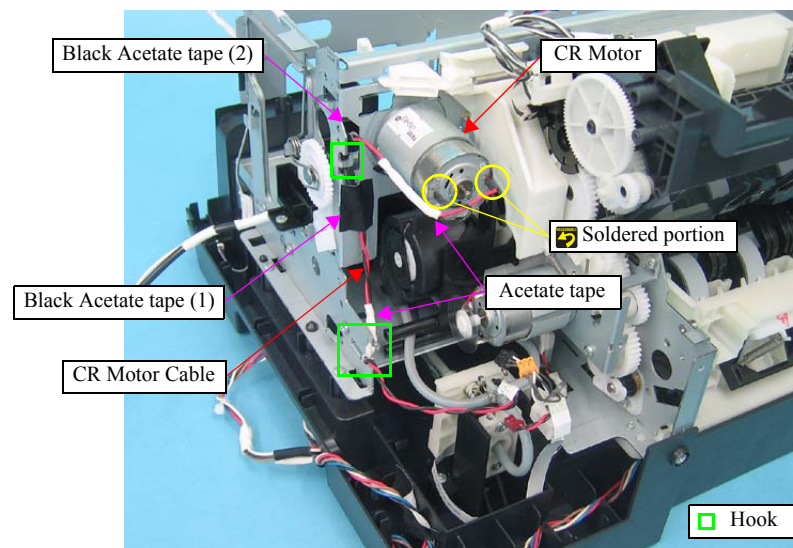

Figure 4-130. Removing the CR Motor (1)
- Route the CR Motor cable as shown in Figure.4-130. To protect the cable, wrap several portions of the cable where secured with the hooks with acetate tape.
- To avoid breaking the soldered portions of the CR Motor cable shown in Figure.4-130, route the cable so that the soldered portions are not pulled.
- When the CR Motor is replaced, wrap the CR Motor cable at the specified place shown in Figure.4-130 with acetate tape (x3) in specified colors twice around the cable.